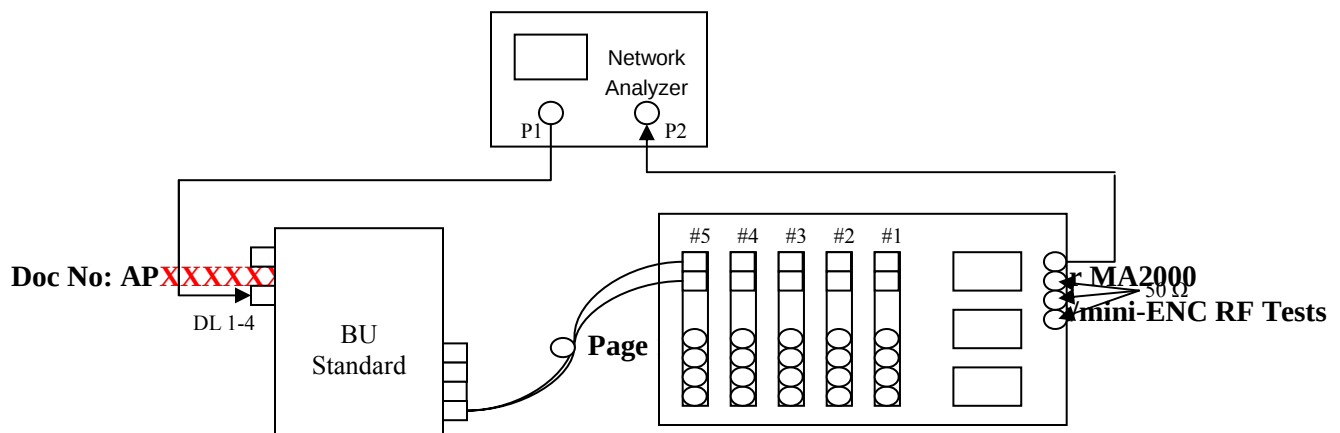

Figure 10.1 DL Port Unbalance Setup
- 10.2. Connect Network Analyzer to the relevant Cabinet Antenna port, BU to the relevant RHU in the Cabinet and Signal Generator to the DL port in the BU, as shown at Figure 10.1.